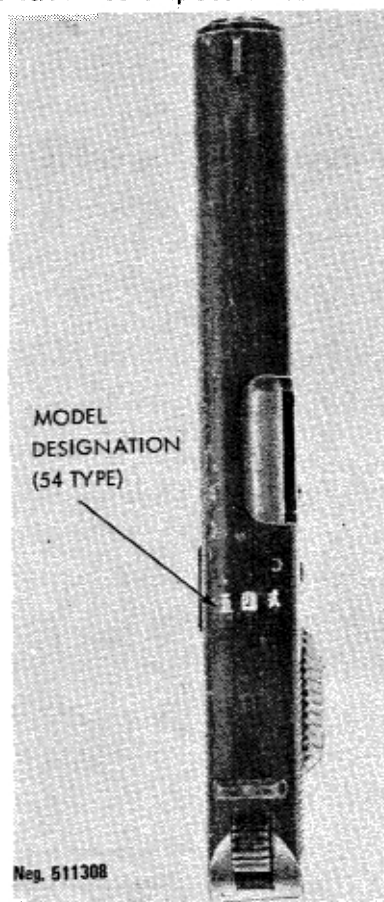

Figure 9. Type 54 pistol, top view.
b. Most Soviet and Polish produced pistols have odd slide serrations—a series of alternating wide and narrow vertical cuts—while the PRC Types 51 and 54 pistols (fig 8), the Hungarian 48M, the Yugoslav M54, and late Soviet TT-33s have uniform narrow vertical cuts. The pistols within this latter group can be further differentiated by the markings 五一 貳 or 五四 貳 on the slide top or receiver on the PRC Types 51 and 54 pistols (fig 9), the